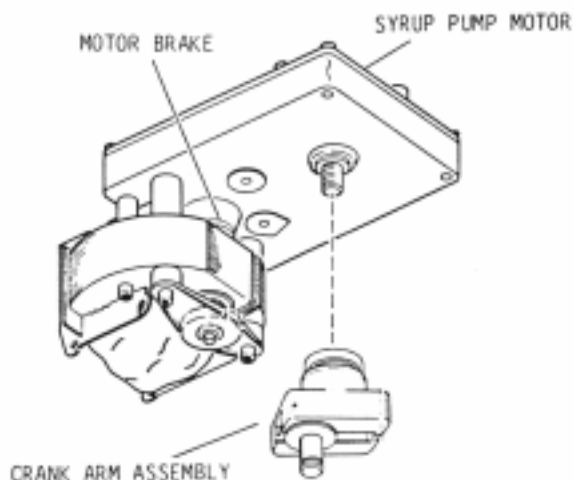

FIGURE 5. MOUNTING THE CRANK ARM ASSEMBLY ON THE MOTOR
6. MOUNTING THE CRANK ARM ASSEMBLY ON THE MOTOR (See Figure 5)